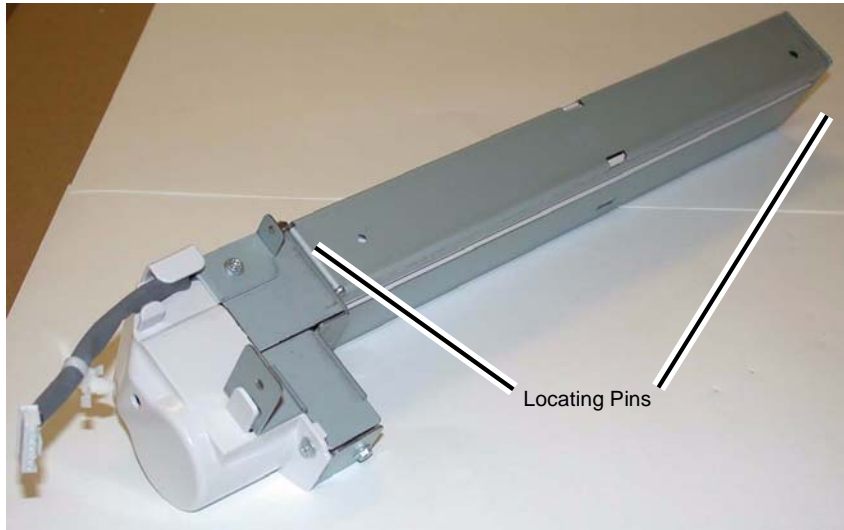

Figure 2 Crease Assembly
NOTE: Make sure the Locating Pins (2) are properly engaged (Figure 2).